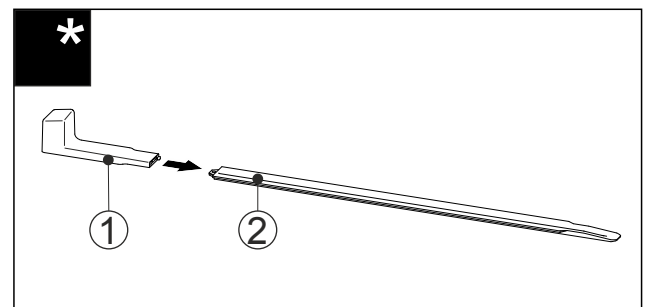

Fig. 51
- Insert the mounting handle Fig. 51 (1) into the leveling rail Fig. 51 (2).